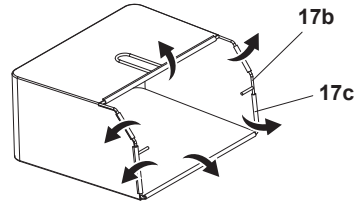

Fig. 5
- Clip the six rubber clips (17c) to the steel frame (17b) (Fig. 5).
- The Grass catcher (17) is ready for use.